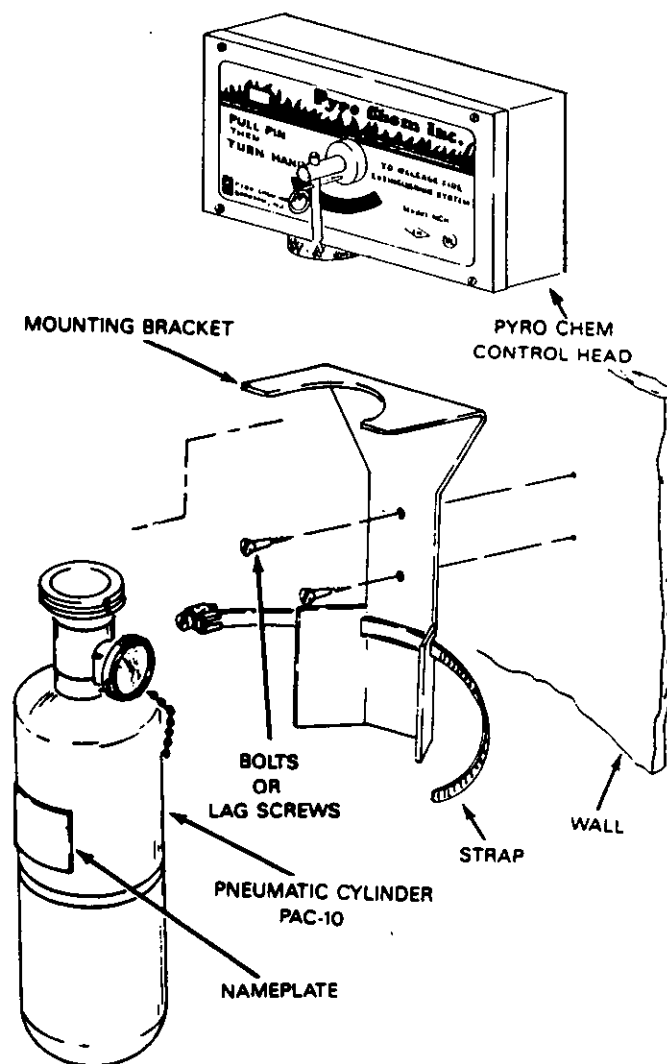

FIGURE 4-10. Pneumatic Cylinder Installation
In order to actuate these cylinder combinations from the MCH or ECH control heads a $\frac{1}{4}$ " , 45° flare type fitting conforming to SAE J513c must be screwed into the base of the actuator. (Provided by installer) A maximum of twenty-four (24) inches of refrigeration type tubing is allowed with an outside diameter of $\frac{1}{4}$ inch and wall thickness of $\frac{1}{32}$ of an inch. (See figure 4-10).
Tubing used in this installation shall have an outside diameter of $\frac{1}{4}$ " with a minimum wall thickness of $\frac{1}{32}$ of an inch. This is commonly known as refrigeration type copper tubing. All tubing fittings shall be of the $\frac{1}{4}$ " , 45° flare type conforming to SAE J513c. Compression type fittings are not acceptable. (See figure 4-10).